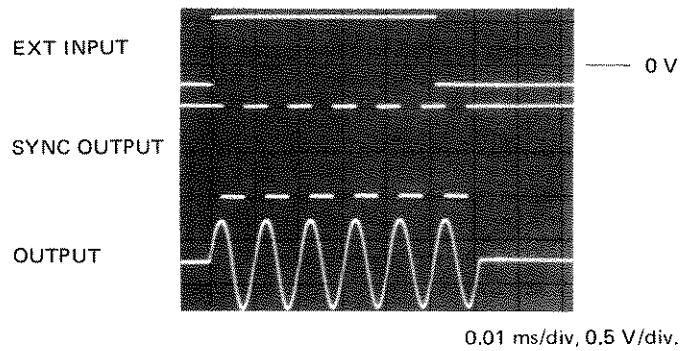

Figure 4-9. Example of correct gate operation
3. Set pulse generator for output pulse approx 50 μ s wide, rep. rate 1 kHz, baseline zero or more negative, pulse top + 250 mV. Verify that each positive gate releases a burst of output cycles and that each cycle is complete (Figure 4-9).